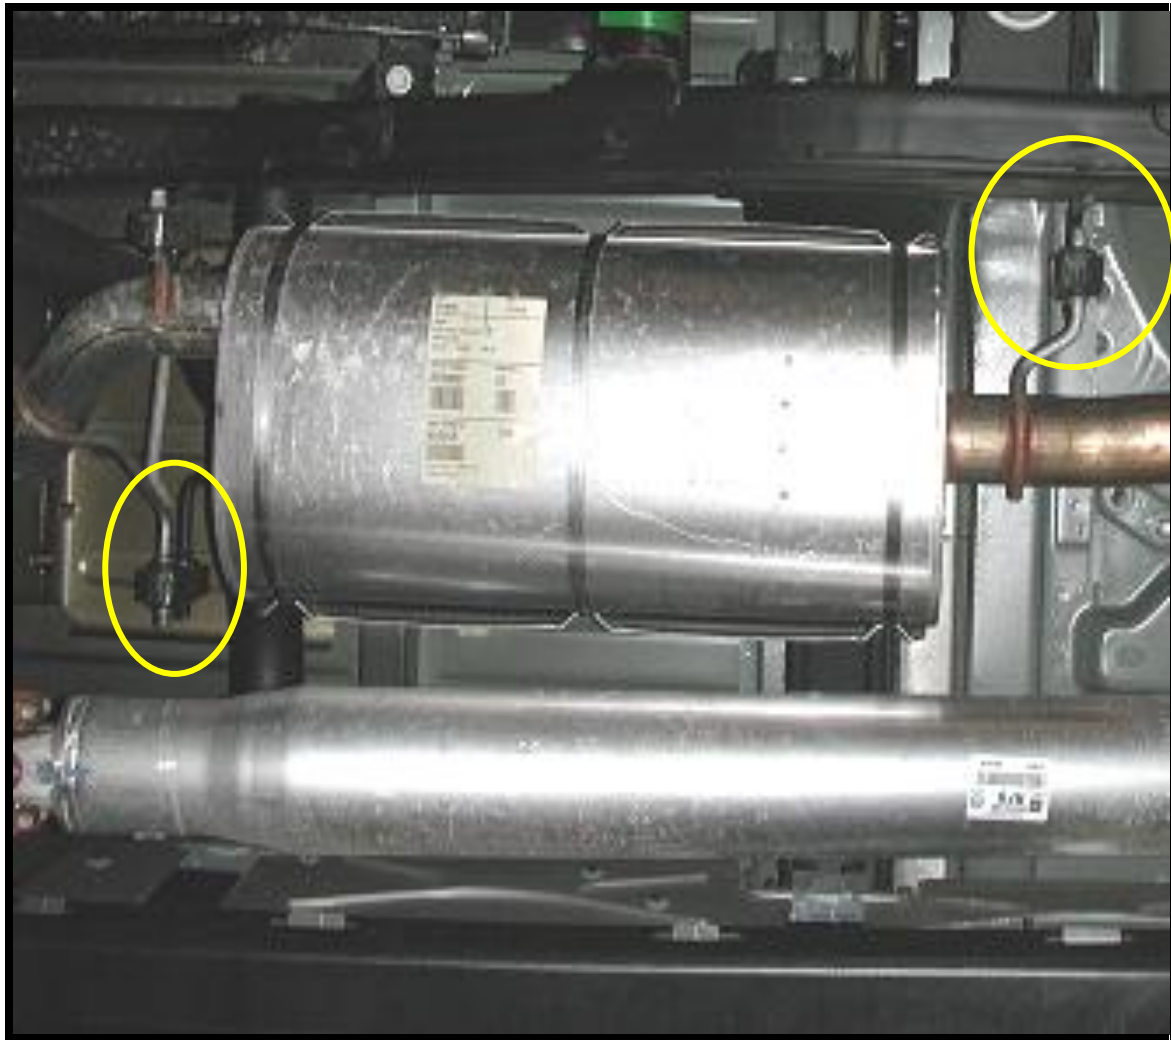

Figure 3: Muffler Isolator and Hanger Locations
- 4 While the muffler is still supported, once more using a pry bar, remove the rubber isolators from the front and rear of the muffler... **See figure 3.**